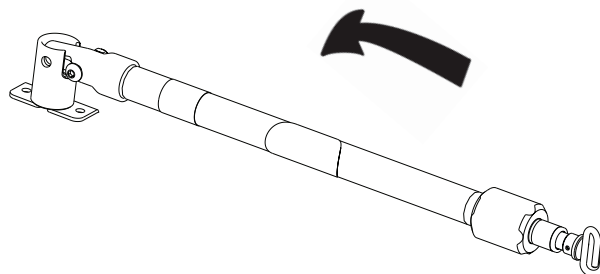

Figure 48 – IV pole storage position
1. Lift and pivot the IV pole from the storage position and push down until the IV pole locks into the receptacle (A).
2. To raise the height of the pole, turn the locking collar (B) counterclockwise and pull up on the telescoping portion (C) of the pole to raise it to the desired height.
3. Turn the locking collar (B) clockwise to lock the telescoping portion in place.
4. Hang the IV bags on the IV hook (D).
5. Turn the locking collars (B) counterclockwise and slide section (C) into the bottom tube.
6. Turn the locking collars (B) clockwise to tighten.
7. Lift up and pivot the pole down into the storage position (Figure 48).